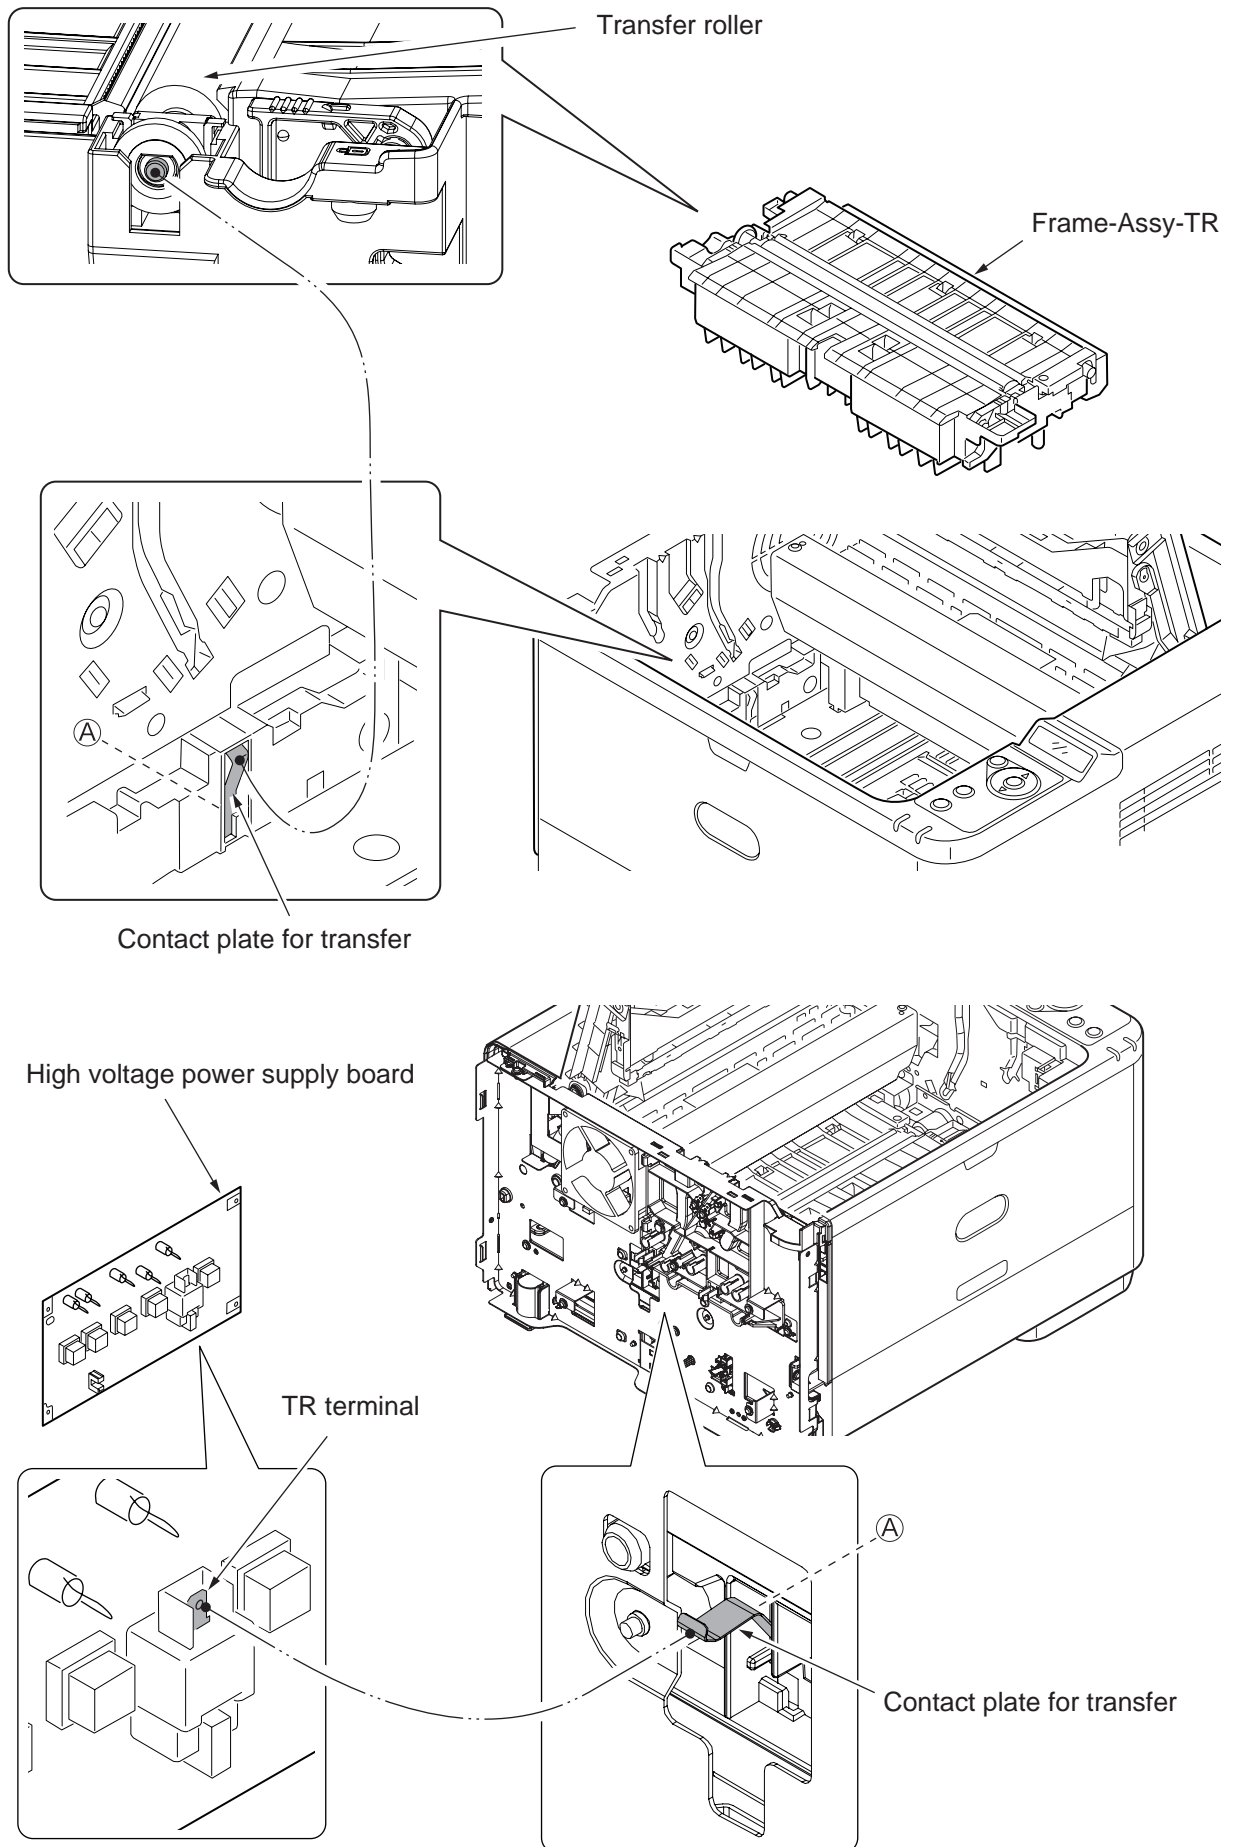

Figure 6-4
- ▼ Yes      Does the contact plate of the transfer roller contact the TR terminal of the high-voltage power supply unit properly? (See Figure 6-4 , Section 7.2(3))